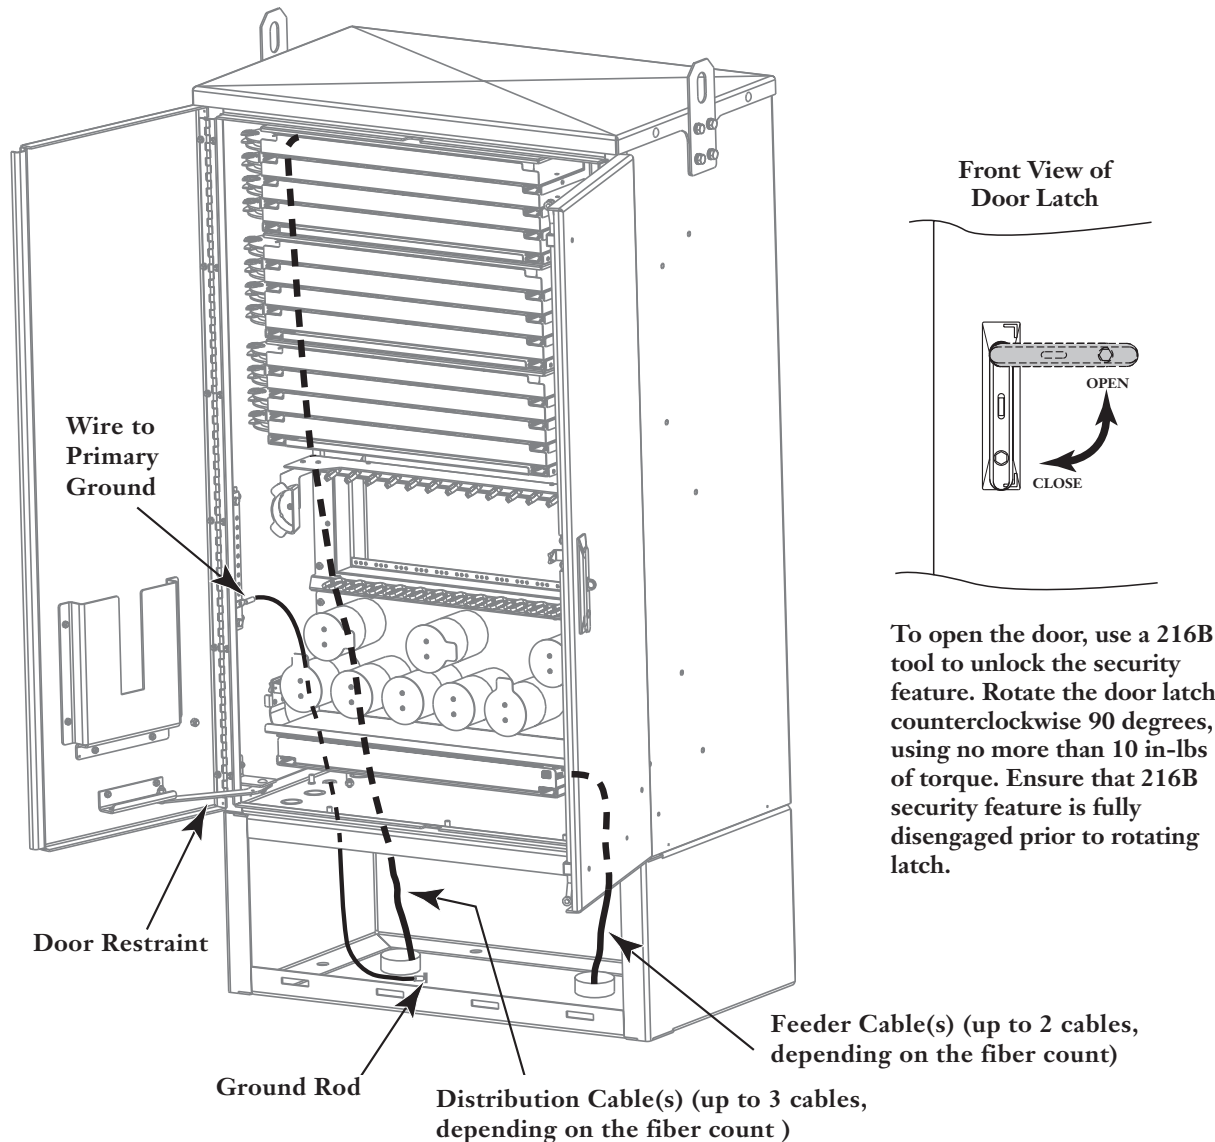

Figure 11 — Ground Cabinet and Cables
- Step 1** Open the cabinet doors until the door restraint automatically engages to hold the door in the open position as shown in Figure 11.
- Step 2** Using the provided grounding kit, attach the No. 6 AWG ground wire to the ground bar inside the cabinet (Figure 11).
- Step 1** Disengage each door restraint by lifting it to release the door (Figure 11).